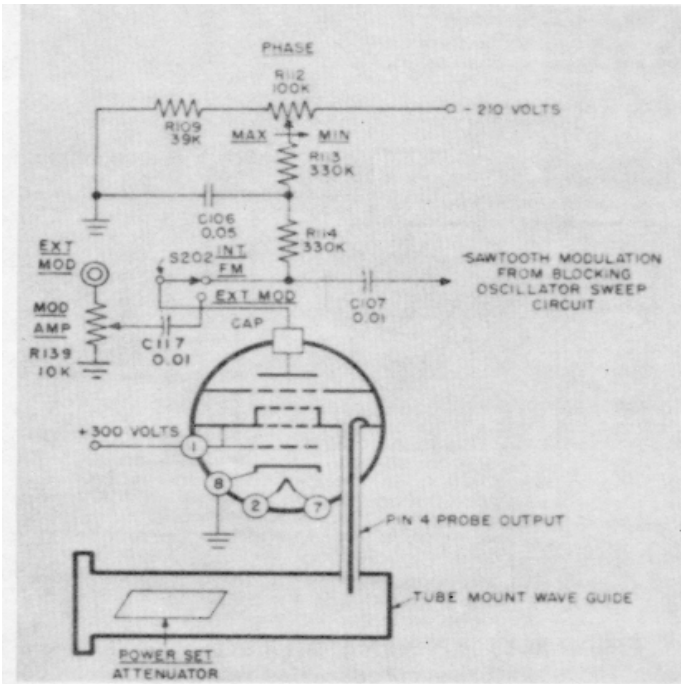

Figure 2-19. Test Oscillator Circuit
d. OSCILLATOR CIRCUIT. (See figure 2-19.)